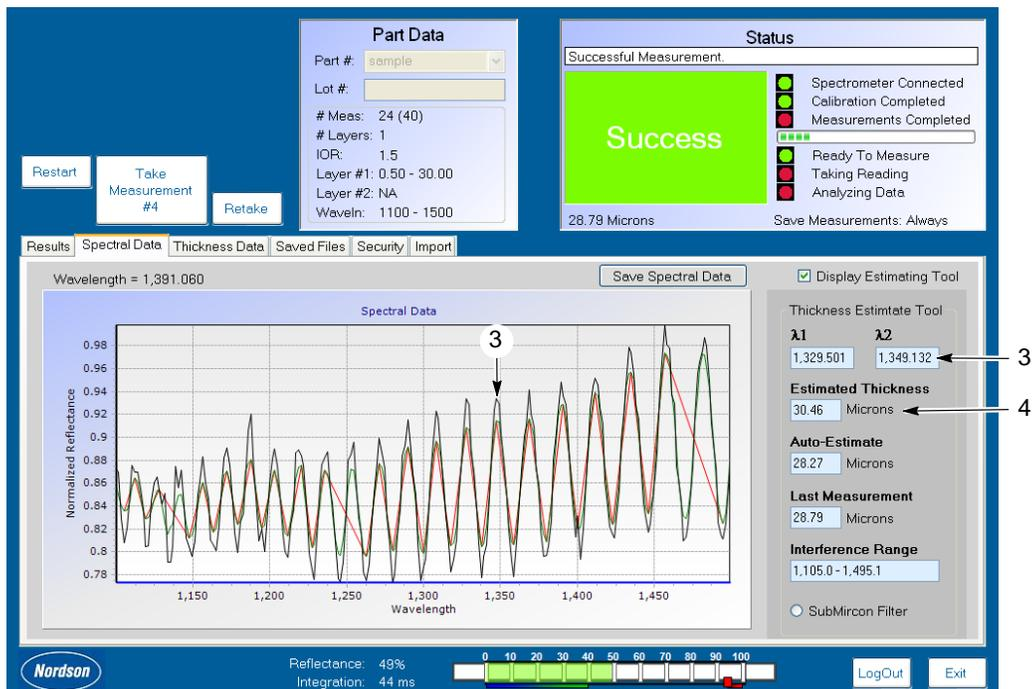

Figure 23 Sine Wave and  $\lambda_2$  Displayed through Spectral Data Tab
3. Double click on the peak value of the second cycle and the software populates  $\lambda_2$  (1349.132 nm in Figure 23).
4. Figure 23 shows the *Estimated Thickness* of 30.46 microns.